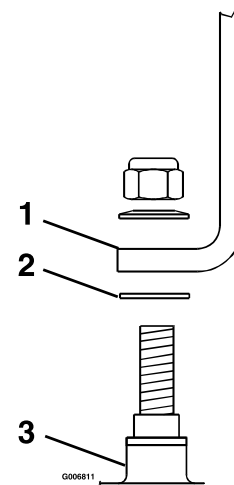

Figure 25
- Remove the 3/8 inch nyloc nut and spring disc washer from the stud on top of the transmission (See Figure 25).